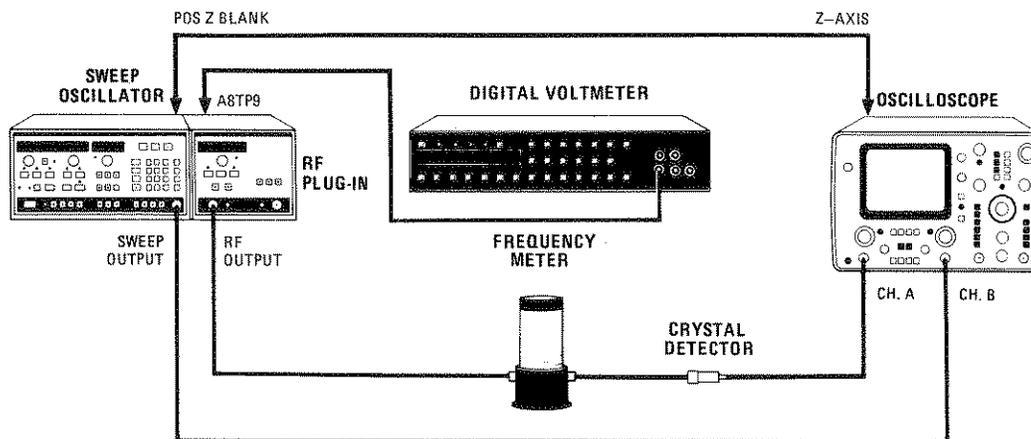

Figure 5-15. YO Delay Compensation Test Setup
1. Connect the equipment as shown in Figure 5-15, using the 537A Frequency Meter. On the 8350A, press **INSTR PRESET** and allow the equipment to warm up for one hour.
6. Adjust A8R18 (Z) for a DVM reading equal to the voltage noted in step 4. Remove the DVM test leads.